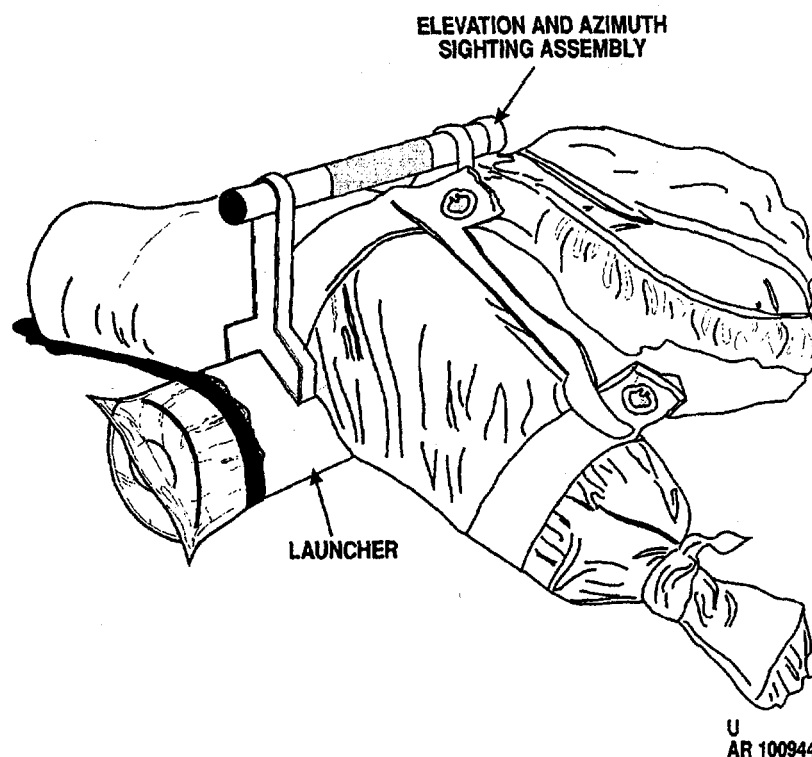
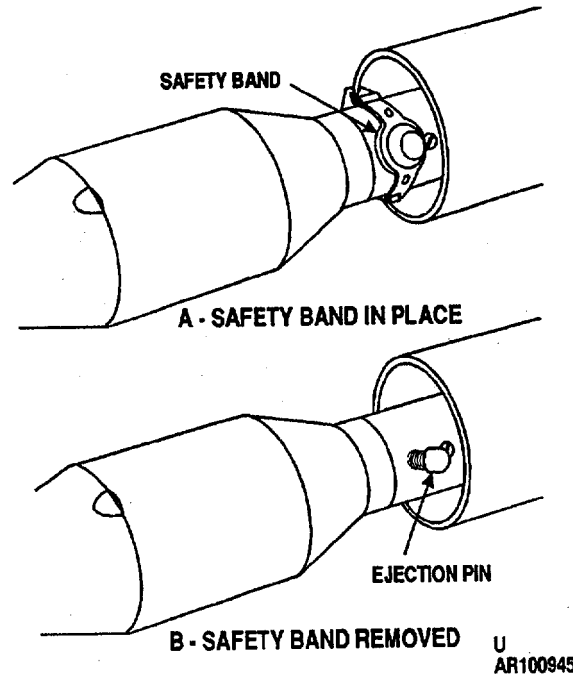
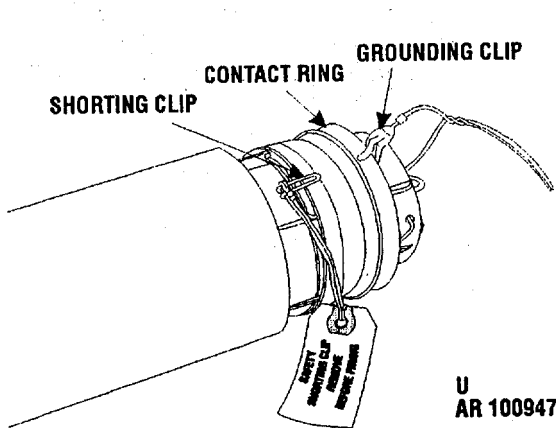

Figure 2-66. Emplaced launcher and sighting assembly, weighted.
Figure 2-67. Safety band in place and removed.
Figure 2-68. Depressing ejection pin.
- (1) In soft earth, loose sand, etc., scoop up mound approximately 2 feet in diameter to height of 6 to 8 inches (fig. 2-66).
- (2) Remove circular wooden blocks from launcher end.
- (3) Supporting head of rocket, firmly push rocket slowly forward until safety band is exposed (fig. 2-67).
- (4) Remove safety band.
- (5) Depress ejection pin and push rocket into launcher until ejection pin is held in depressed position by launcher tube (fig. 2-68).